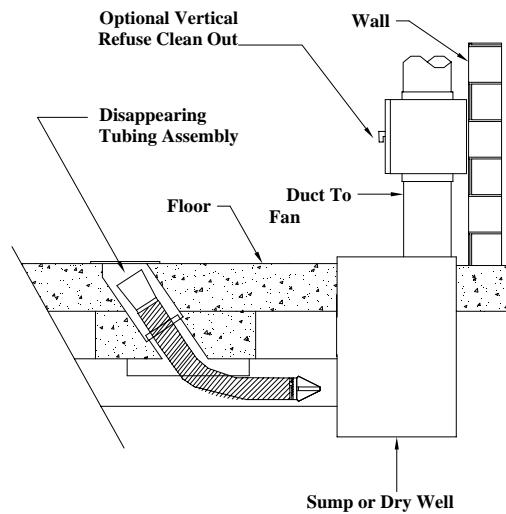

FIG 1
15. Insert the tubing assembly into the floor fixture to ensure the tubing assembly can be completely concealed in the underground duct (See FIG 1).